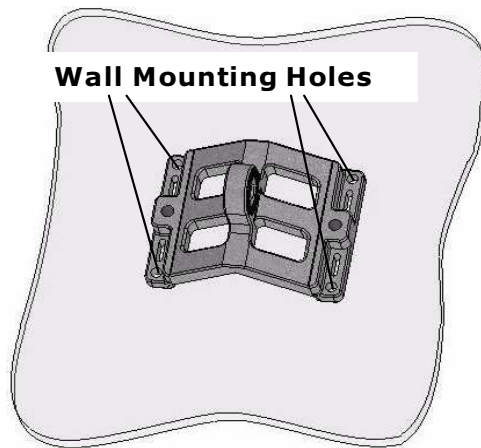

Figure 4: Bracket Wall Mounting
- a) Fasten the wall/pole bracket [A] to the wall using four 3/16" (5mm) bolts, as shown in Figure 4. Use the appropriate bolts and fasteners, which is dependent on the material of the wall. Wall-mounting bolts and fasteners are not supplied with the mounting kit.
2. Attach the mounting plate to the MBW 3100 unit using the M4 captive bolts, as shown in Figure 4.